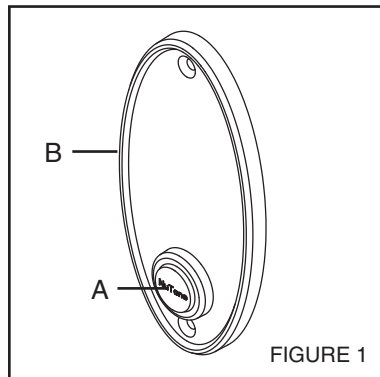

FIGURE 1
- Place cover (B) over chime base (A) and press down to install. A "click" will confirm that it is securely attached. (Figure 1)
- Place cover (B) over chime base (A) and press down to install. A "click" will confirm that it is securely attached. (Figure 1).
2. Make sure that push button assembly (A) is inserted fully into escutcheon (B). (Figure 1) Connect wires per installation instructions provided with chime.